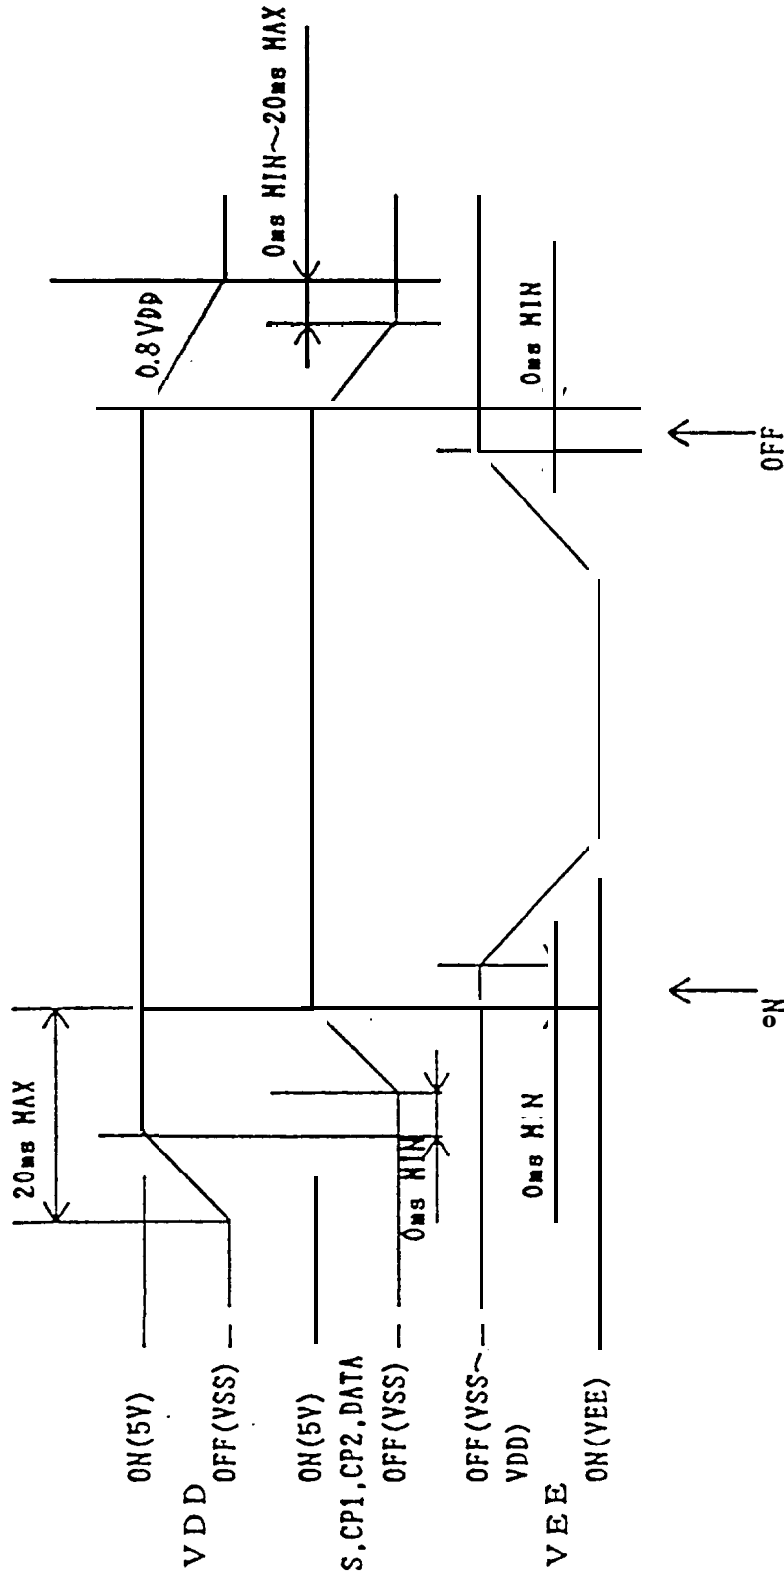

Fig.10 Power ON/OFF sequence
- (1) The unit should be driven according to the specified ratings to avoid malfunction or permanent damage. DC voltage drive leads to rapid deterioration of **LC**, so ensure that the drive is alternating waveform by continuous application of the signal **CP1**.
- (2) Please refer to **Fig.10** Power ON/OFF sequence.